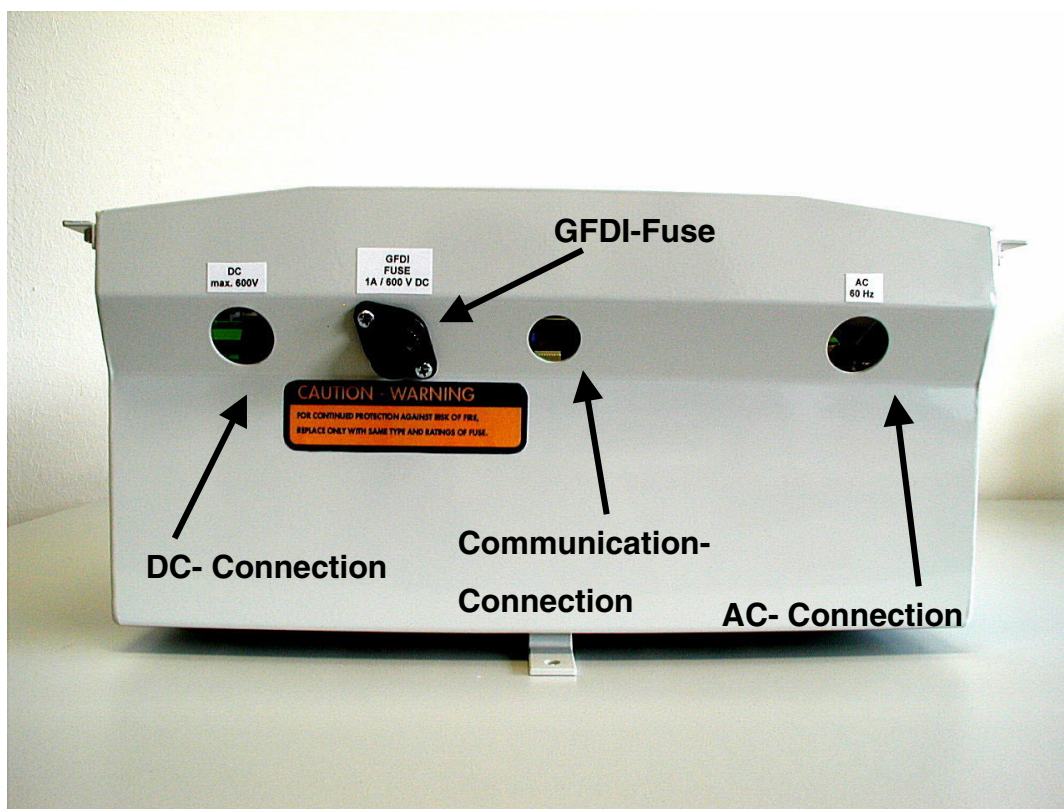

Fig. 2.5: Underside view of the Sunny Boy
- Remove the GFDI-fuse from the Sunny Boy (see Fig. 2.5).